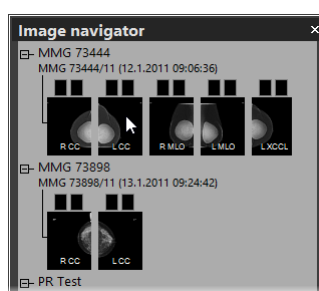

Figure 378 – Display image using the image navigator
2. Expand the selected mammography study and click the required image preview in the image navigator (see Figure 378).